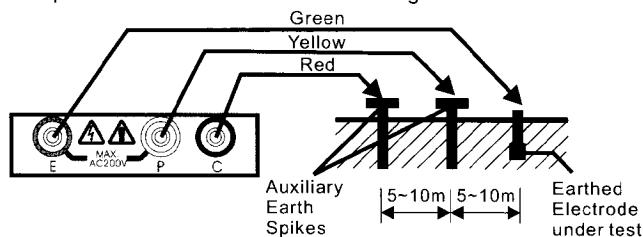

Fig.1
- (1). Connect green, yellow and red test leads to instrument terminals E, P and C with auxiliary earth spikes P1, C1 stuck into earth "IN A STRAIGHT LINE". (Fig. 1)
- (2). Rotary the function switch to suitable range then press the pushbutton to test and take the reading.
- (6) Since measuring current is as low as 2mA, the earth leakage breaker (ELCB) does not trip even if the earth side of the commercial power supply with an ELCB is used.
*Follow the proper connection such as Fig.1 the LED(red) indicator will lit. This proves a correct current circulation is under its operation.